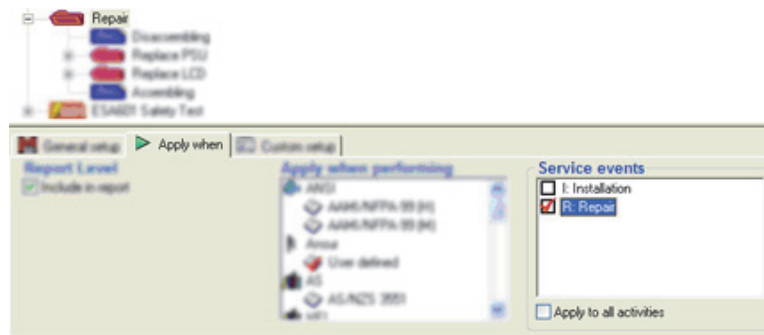

Figure 3-67. Assigning Service Events to Repair
12. Click the test element named **Repair** in the template window shown in Figure 3-67.